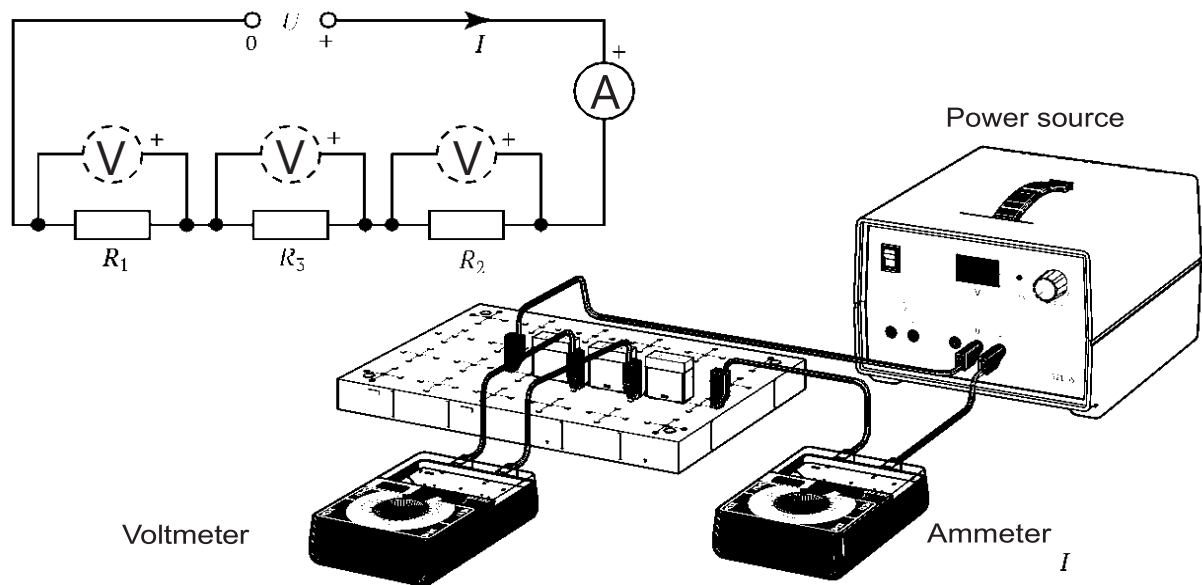

Fig. 33.1. Setup for series connection resistors
1. Assemble the electric circuit as shown in Fig. 33.1. Please note that the wires to the power source must be connected to the «+» and «0» sockets on the front panel (do not use «-» socket). The teacher/engineer should choose the resistors to measure. Since only two multimeters are used, the voltage drop (task 1) or current (task 2) measuring across the resistors is performed by the same device connected to the appropriate nodes of the circuit.